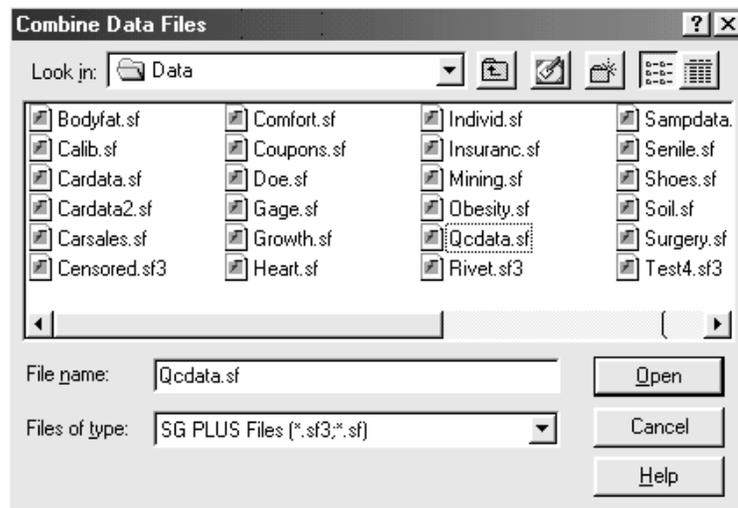

Figure 3-2. Combine Data Files Dialog Box
2. Choose FILE... COMBINE... COMBINE [n]... to display the Combine [n]... dialog box (see Figure 3-2).